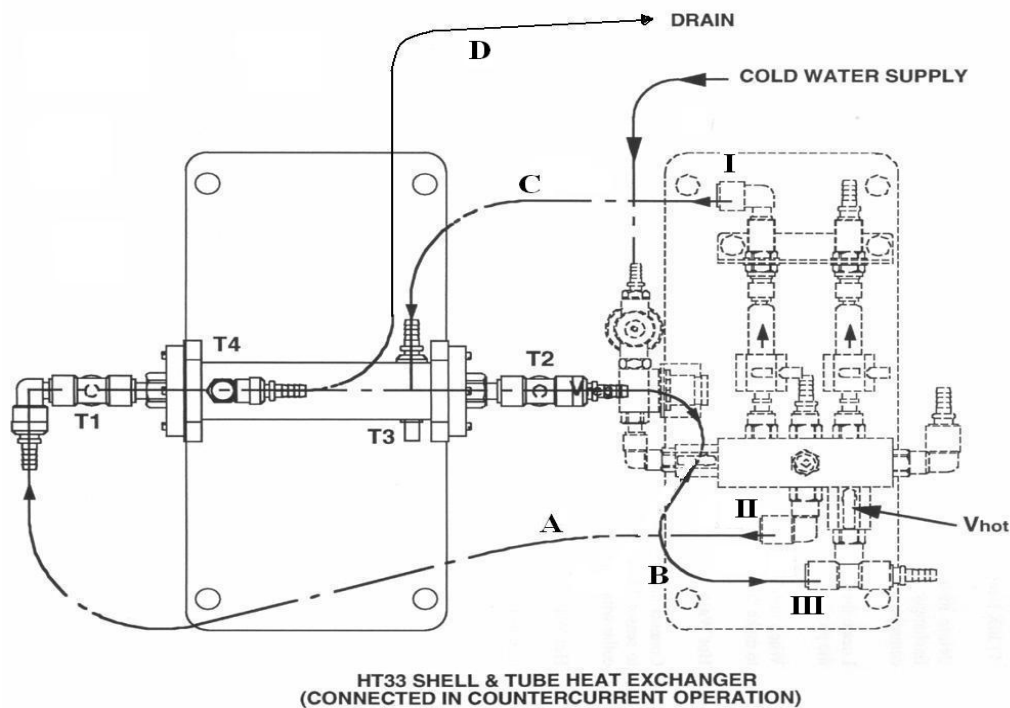

Fig. 1. S&T HX countercurrent flow setup.
- b) Place the S&T HX onto the HX Service Unit and hook up the HX in countercurrent flow as shown in Fig. 1.
- f) Calibrate the cold water flow meter. With the cold water flowing at 3 liter/min, drain the cold water hose (hose D in Fig. 1) into an empty cylinder. Measure how long it takes to fill the container to 0.150 liter with a stopwatch. Repeat the measurement 5 more times (for purposes of uncertainty analysis). Repeat this at flow rates of 2 and 1 liter/min, but only repeat the measurement 3 times at each flow rates (instead of 6 times). Do the calibration and uncertainty analysis later. Assume that this calibration applies for the hot water flow meter also.
- a) Setup the S&T HX in countercurrent flow as shown in Fig. 1.